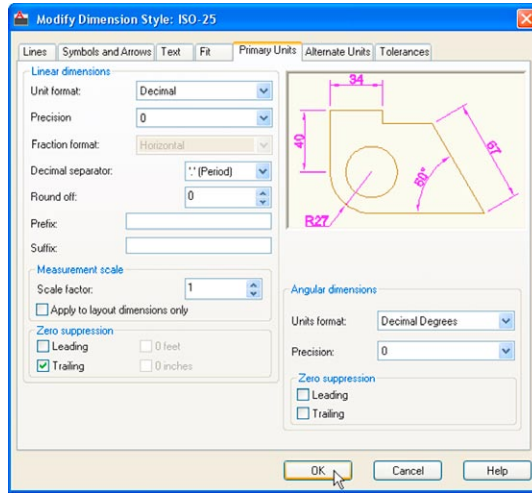

Fig. 4.12 Setting Primary Units in the Dimension Style Manager
5. The **Modify Dimension Style** dialog reappears (Fig. 4.12), *click* the **Symbols and Arrows** tab. Set **Arrow size** to **6**.
7. Then *click* the **Primary Units** tab and set the units **Precision** to **0**, that is no units after decimal point and **Decimal separator** to **Period**. *Click* the sub-dialogs **OK** button (Fig. 4.12).